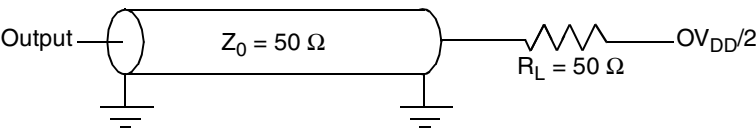
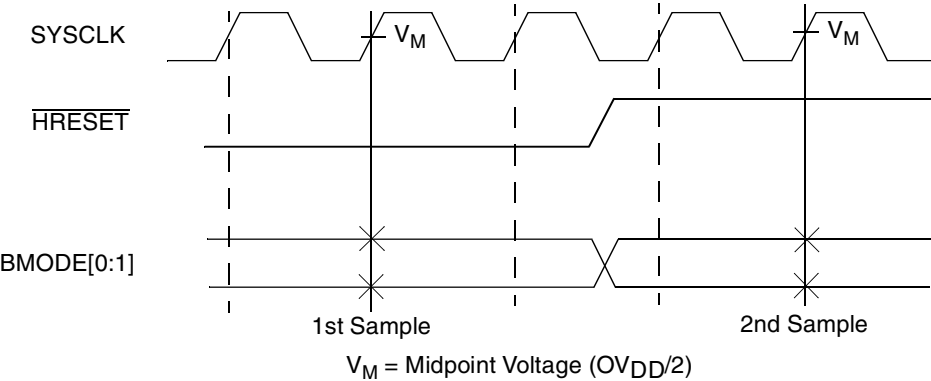
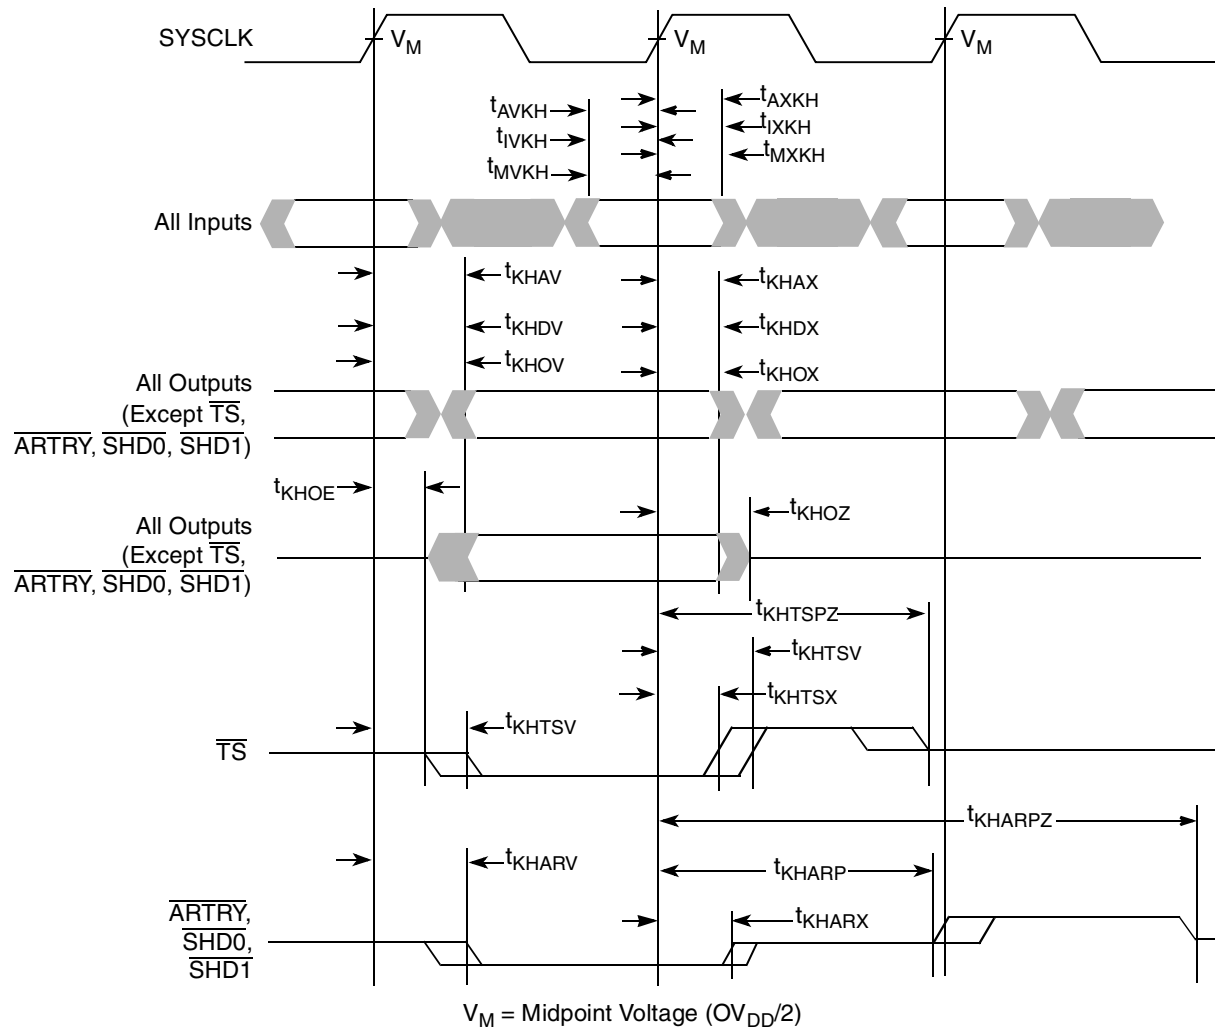

Figure 4. AC Test Load
Figure 5. $\overline{\text{BMODE}}[0:1]$ Input Sample Timing Diagram
Figure 6. Input/Output Timing Diagram
Table 9 provides the processor bus AC timing specifications for the MPC7448 as defined in Figure 4 and Figure 5.
- All input specifications are measured from the midpoint of the signal in question to the midpoint of the rising edge of the input SYSCLK. All output specifications are measured from the midpoint of the rising edge of SYSCLK to the midpoint of the signal in question. All output timings assume a purely resistive 50-Ω load (see Figure 4). Input and output timings are measured at the pin; time-of-flight delays must be added for trace lengths, vias, and connectors in the system.
- The symbology used for timing specifications herein follows the pattern of $t_{(signal)(state)(reference)(state)}$ for inputs and $t_{(reference)(state)(signal)(state)}$ for outputs. For example, t_{VKH} symbolizes the time input signals (I) reach the valid state (V) relative to the SYSCLK reference (K) going to the high (H) state or input setup time. And t_{KHOV} symbolizes the time from SYSCLK(K) going high (H) until outputs (O) are valid (V) or output valid time. Input hold time can be read as the time that the input signal (I) went invalid (X) with respect to the rising clock edge (KH) (note the position of the reference and its state for inputs) and output hold time can be read as the time from the rising edge (KH) until the output went invalid (OX).
- According to the bus protocol, $\overline{TS}$ is driven only by the currently active bus master. It is asserted low and precharged high before returning to high impedance, as shown in Figure 6. The nominal precharge width for $\overline{TS}$ is t_{SYSCLK} , that is, one clock period. Since no master can assert $\overline{TS}$ on the following clock edge, there is no concern regarding contention with the precharge. Output valid and output hold timing is tested for the signal asserted. Output valid time is tested for precharge. The high-impedance behavior is guaranteed by design.
- According to the bus protocol, $\overline{ARTRY}$ can be driven by multiple bus masters through the clock period immediately following $\overline{AACK}$. Bus contention is not an issue because any master asserting $\overline{ARTRY}$ will be driving it low. Any master asserting it low in the first clock following $\overline{AACK}$ will then go to high impedance for a fraction of a cycle, then negated for up to an entire cycle (crossing a bus cycle boundary) before being three-stated again. The nominal precharge width for $\overline{ARTRY}$ is $1.0 t_{SYSCLK}$; that is, it should be high impedance as shown in Figure 6 before the first opportunity for another master to assert $\overline{ARTRY}$. Output valid and output hold timing is tested for the signal asserted. The high-impedance behavior is guaranteed by design.
- $\overline{BMODE}[0:1]$ and $BVSEL[0:1]$ are mode select inputs. $\overline{BMODE}[0:1]$ are sampled before and after $\overline{HRESET}$ negation. $BVSEL[0:1]$ are sampled before $\overline{HRESET}$ negation. These parameters represent the input setup and hold times for each sample. These values are guaranteed by design and not tested. $\overline{BMODE}[0:1]$ must remain stable after the second sample; $BVSEL[0:1]$ must remain stable after the first (and only) sample. See Figure 5 for sample timing.
Figure 4 provides the AC test load for the MPC7448.
Figure 5 provides the $\overline{\text{BMODE}}[0:1]$ input timing diagram for the MPC7448. These mode select inputs are sampled once before and once after $\overline{\text{HRESET}}$ negation.
Figure 6 provides the input/output timing diagram for the MPC7448.